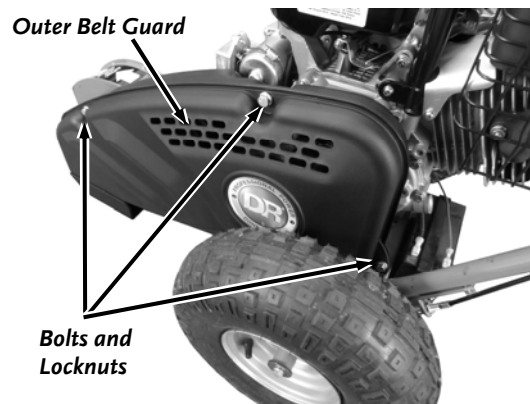

Figure 44
1. Remove the three Bolts and Locknuts from the Belt Guards with two 1/2" Wrenches and remove the outer Belt Guard (**Figure 44**).